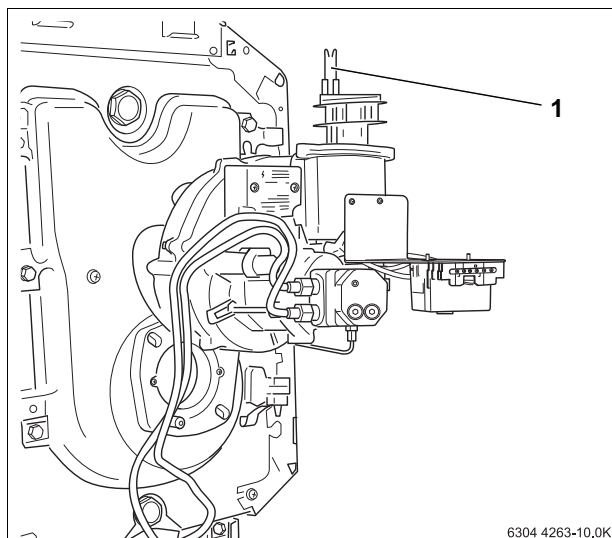

Fig. 22 Connect burner in service position
- Bring the burner in servicing position (Fig. 22).
The ignition electrodes (Fig. 22, **Item 1**) should be free of deposits.